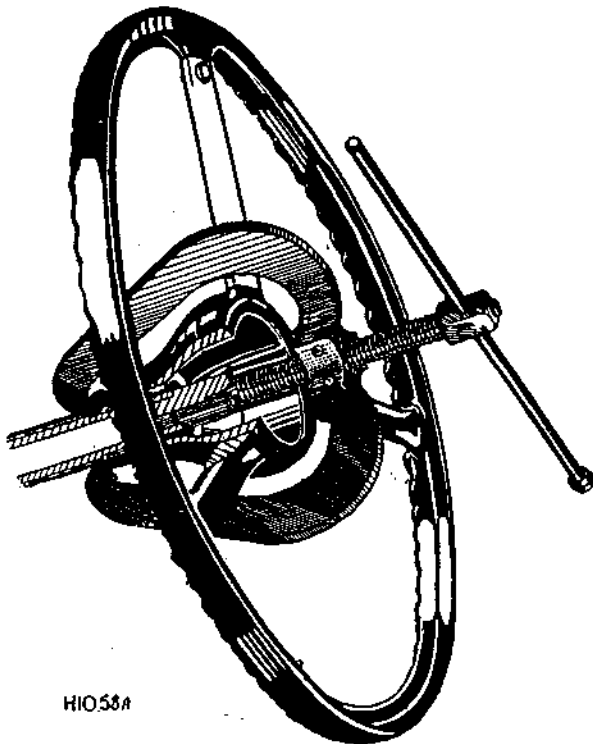

Fig. 2. Removing Steering Wheel.
2. Remove Steering Wheel by use of an extractor shown in Fig. 2.